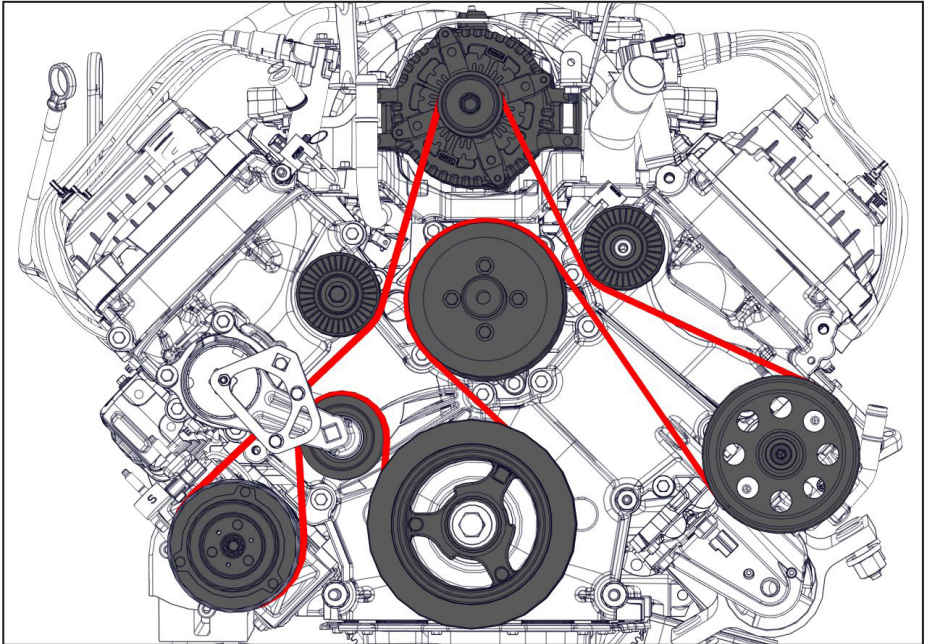

Figure 10 — OEM belt routing
- ☐ Install, and tension the OEM FEAD belt (Figure 10).